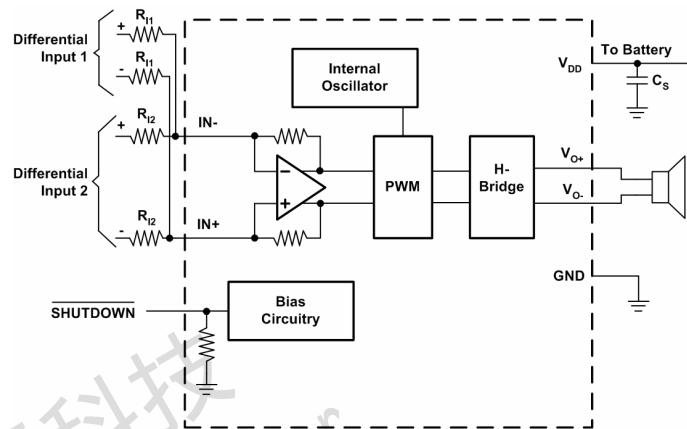

Figure 33. Dual Differential Input Configuration
The EUA2036 can be used to amplify more than one audio source. Figure 33 shows a dual differential input configuration. The gain for each input can be independently set for maximum design flexibility using the  $R_I$  resistors for each input and Equation (1). Input capacitors can be used with one or more sources as well to have different frequency responses depending on the source or if a DC voltage needs to be blocked from a source.